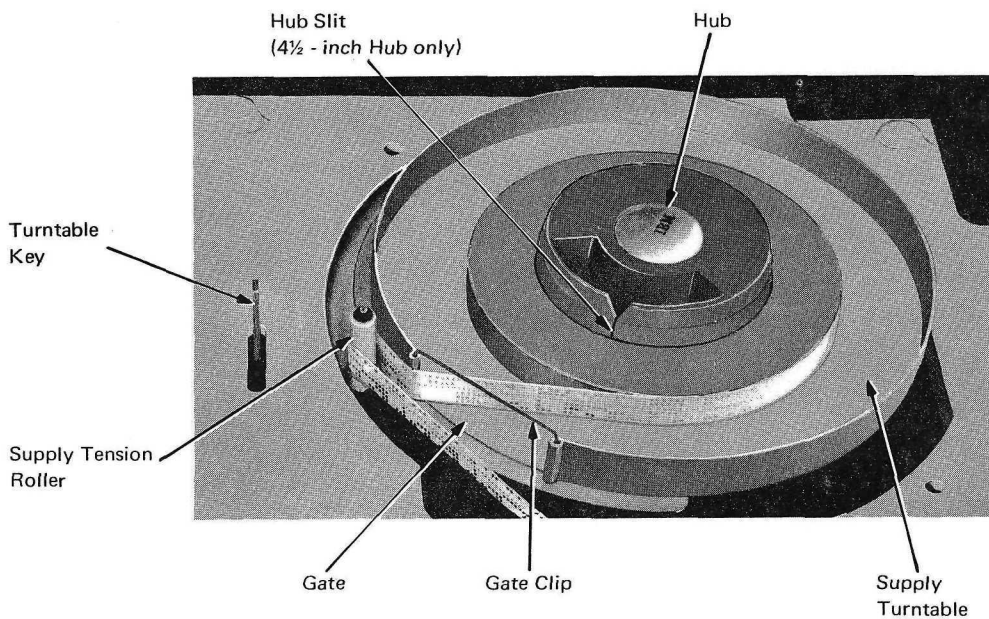

Figure 13. Step 2: Loading Reels onto Supply Feature (Clockwise-Wound Reel Shown) [08313]
- a. If the center-roll feature is fitted and is showing uppermost, put the turntable key to release the turntable (Figure 13). Rotate the turntable so that the supply feature is uppermost. The turntable key will automatically re-engage to lock the turntable in position.
- a. If the center-roll feature is not showing uppermost, pull the turntable key to release the turntable (see Figure 13). Rotate the turntable so that the center-roll feature is uppermost. The turntable key will automatically re-engage to lock the turntable into position.